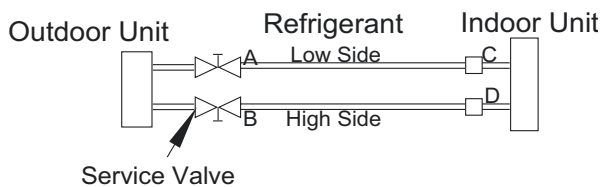

Fig. 10 — Service Valve
1. Completely tighten the flare nuts (A, B, C, D, E). Fully open all circuits service valves. Connect the manifold gage charge hose to the charge port of the low side Master service valve to evacuate all circuits at the same time (see Fig. 10).